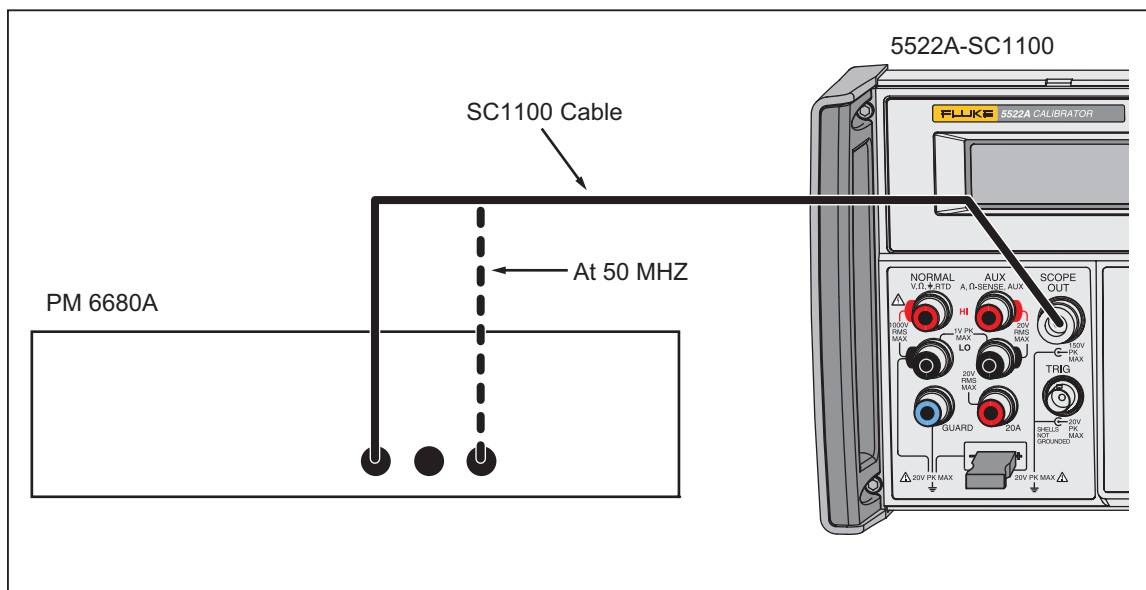

Figure 7-7. AC Voltage Frequency Verification Setup
4. Connect the SCOPE connector on the Calibrator to channel A of the PM 6680 with the output cable. See Figure 7-7.
1. Connect the equipment as shown in Figure 7-7.